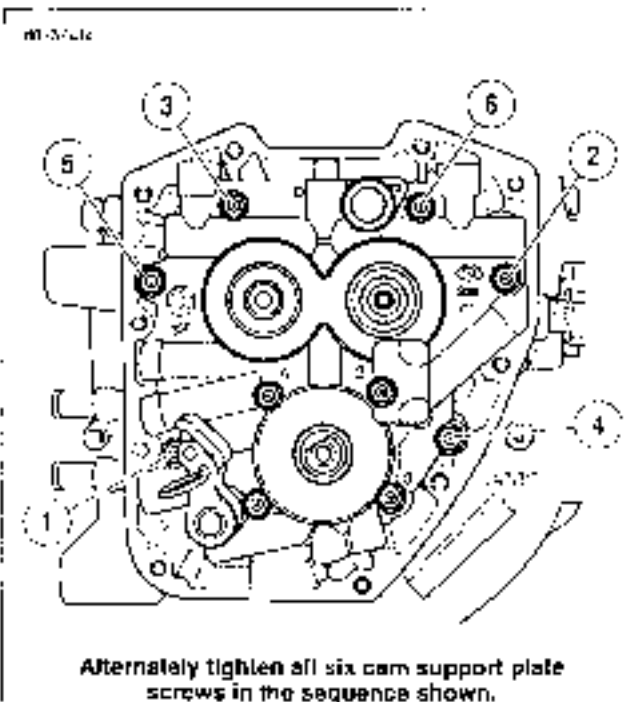

Figure 3-68. Cam Support Plate Torque Sequence
- See Figure 3-68. Install cam support plate screws.